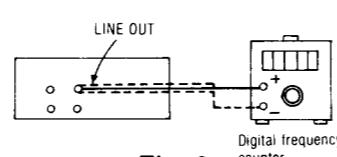
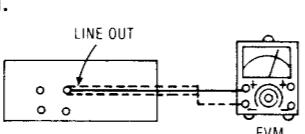

Fig. 3
Fig. 4
| | Fig. 3 | | Fig. 4 |
1. Test equipment connection is shown in Fig. 3.
1. Test equipment connection is shown in Fig. 4.